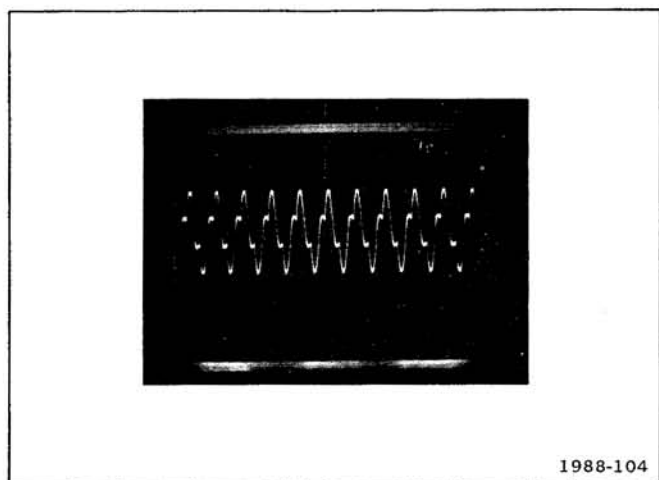

Figure 5-7. Current waveform at T30 for normal inverter operation at line voltage of 115 V.
5. If a burst waveform was obtained in part 4 above, check for stable inverter operation when the line input voltage is increased to about 85 volts. Figure 5-7 shows the current waveform at T30 for normal inverter operation at a line voltage of 115 volts. (NOTE: The test oscilloscope horizontal sweep rate has been changed to about 50 microseconds/division for Figure 5-7.)